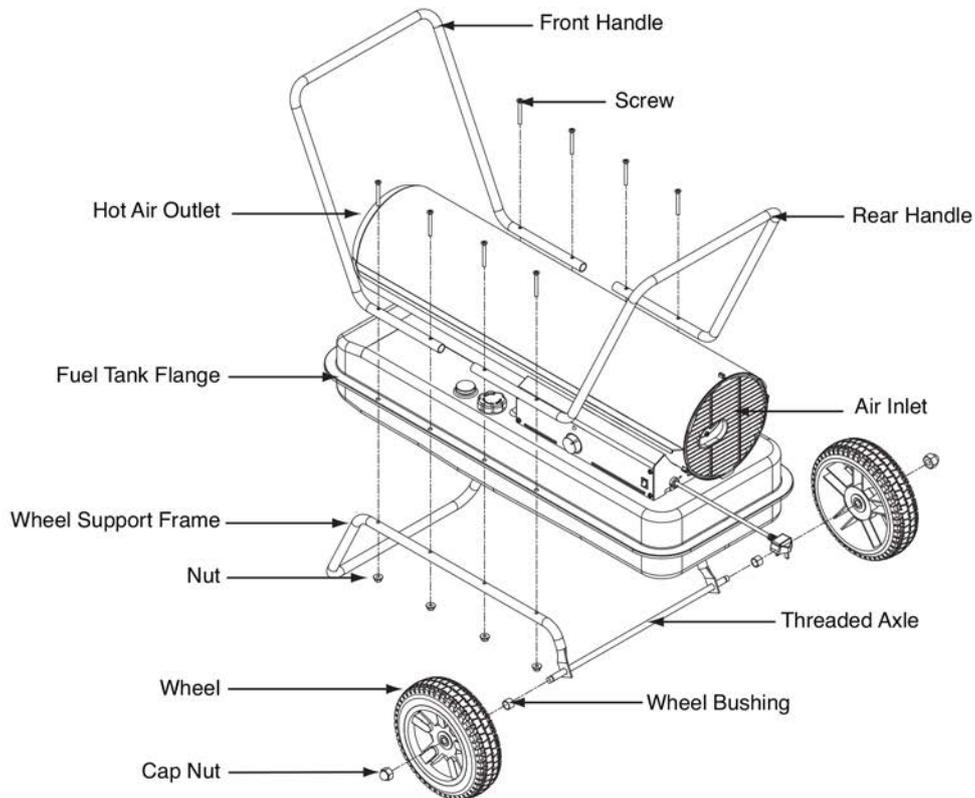

Figure 7. Assembling Handle and Wheels
B. For JEFHTSPC 105 and JEFHTSPC 150 models only (Figure 7)
4. Position the Handles on top of fuel tank flange. Insert screws through handles, fuel tank flange and wheel support frames as shown in Figure 7 and attach nut finger tight after each screw is inserted.